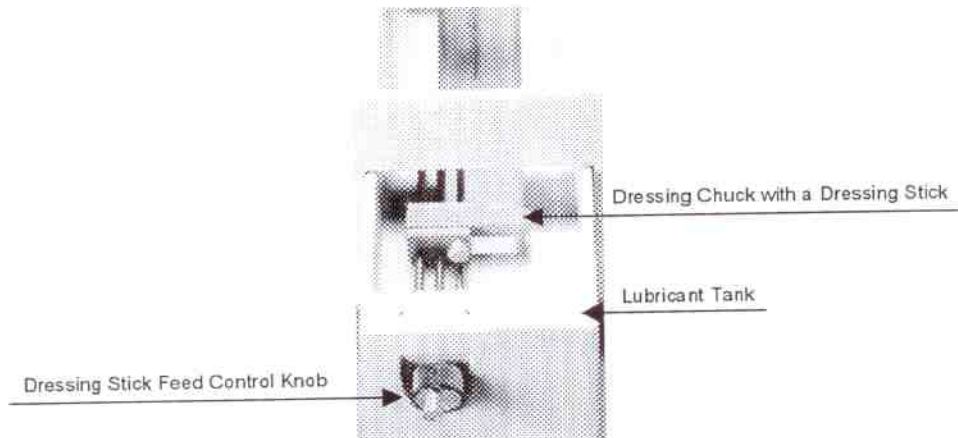

Figure 3 Dressing Chuck inside the Lubricant Tank
4. Rotate the Dressing Stick Feed Control knob clockwise to feed the dressing stick into the wafering blade (see **Figure 3**).